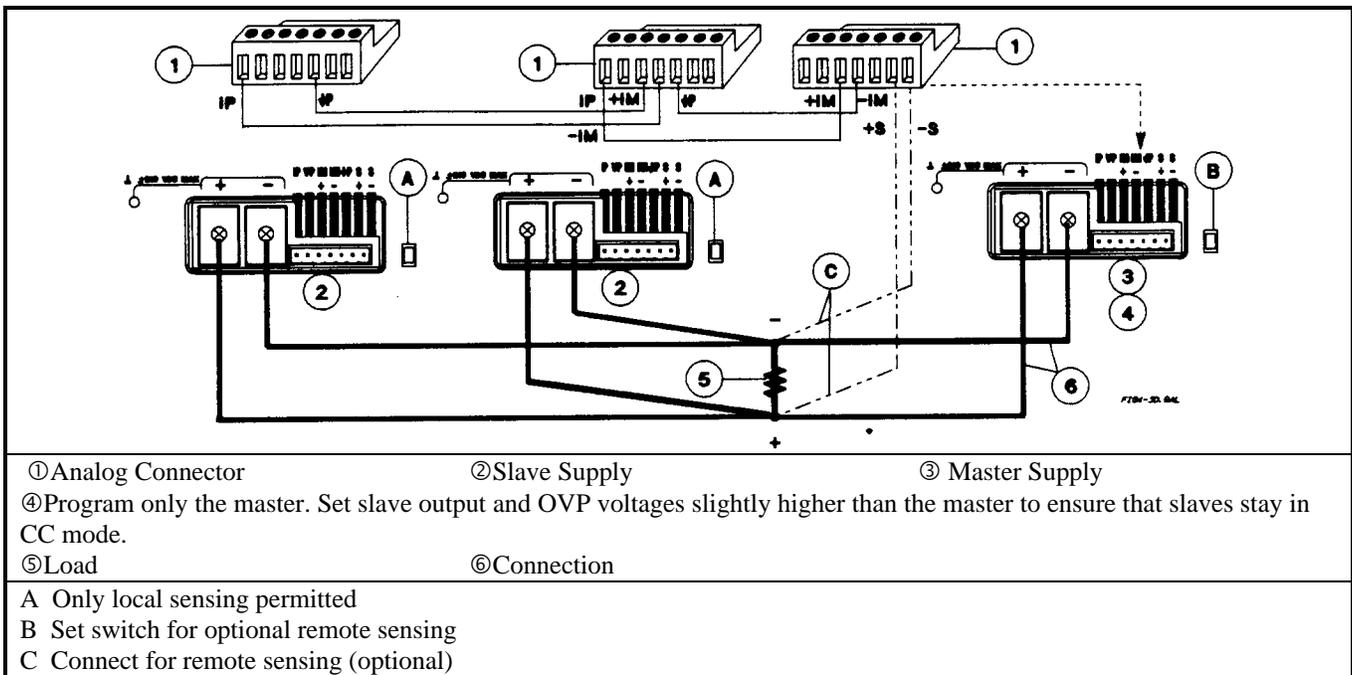

Figure 4-3d. Series 664xA and 665xA Auto-Parallel Connection (Remote Sensing Optional)
**Auto-Parallel Wiring.** Figure 4-3d illustrates how power supplies can be connected in auto-parallel for increased current output. You can connect up to three supplies of the *same model*.
Use load leads of a sufficient wire size so that the absolute voltage difference between the + output terminal of the "master" supply and the + output terminal of the first "slave" supply is kept under 2 V at rated current. This also applies to the voltage difference between the + output terminals of the first and second slave supplies. If remote sensing is required, connect the load to the remote sense terminals *of the master supply*, as shown by the dashed lines in Figure 4-3d.